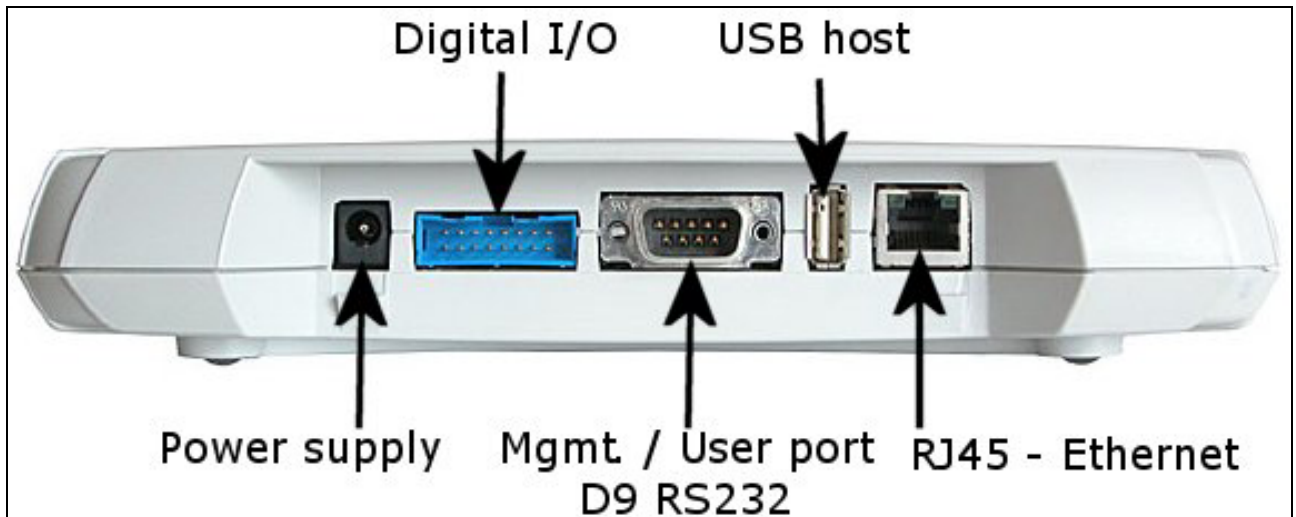
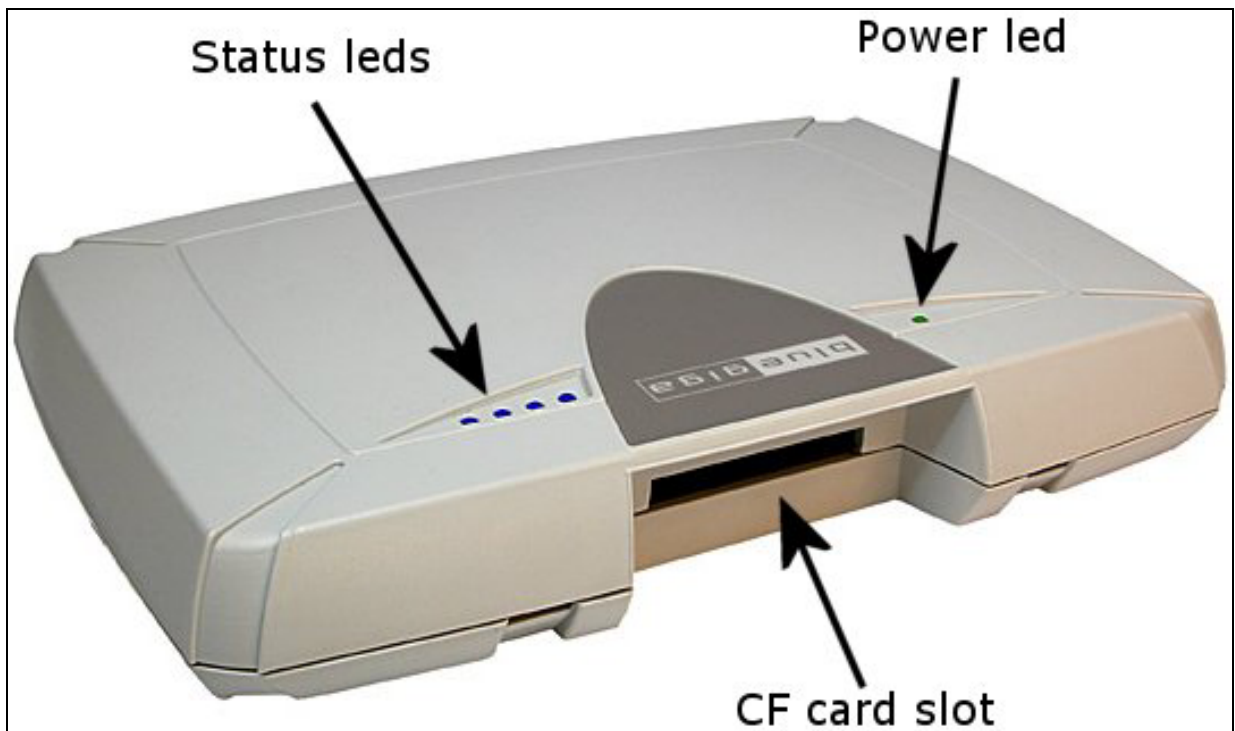

Figure 1. WRAP Multiradio Access Server Connectors.
Figure 2. WRAP Multiradio Access Server LEDs.
The physical interfaces of the Access Server are described in Figure 1 and Figure 2.
NOTE: The power adapter is the disconnection device, the socket-outlet shall be installed near the equipment and shall be easy accessible. The power led (see Figure 2) is on when the power adapter is connected.
6. Connect the serial cable with the null-modem adapter to the management / user port in the Access Server (see Figure 1).